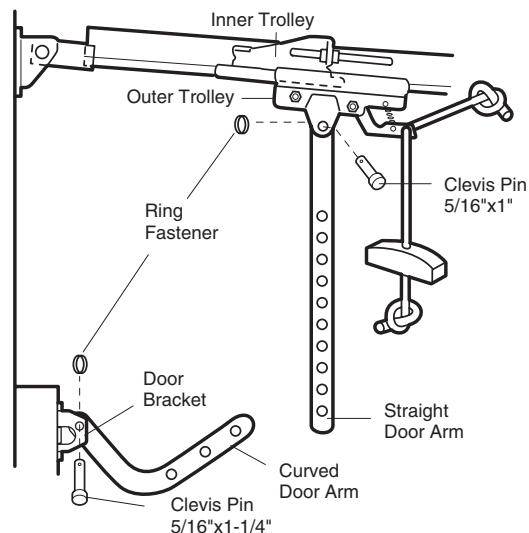

Figure 1
- Make sure garage door is fully closed. Pull the emergency release handle to disconnect the outer trolley from the inner trolley. Slide the outer trolley back (away from the door) about 2" (5 cm) as shown in Figures 1, 2 and 3.
• Figure 1: